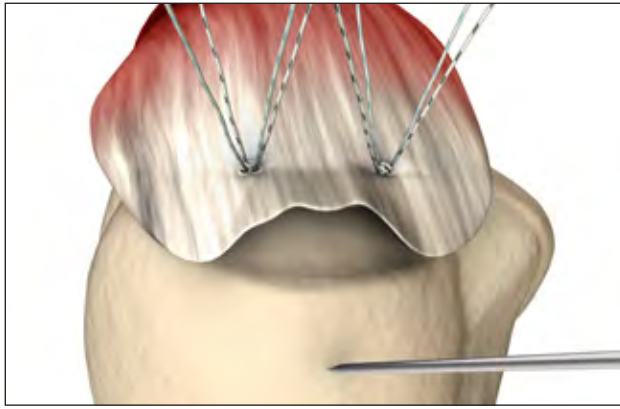

Figure 3
3. Use an appropriate awl to prepare an anchor hole for the anchor in the humeral head. Locate the hole at the desired site on the lateral border of the rotator cuff footprint or lateral to the footprint (Figure 3).